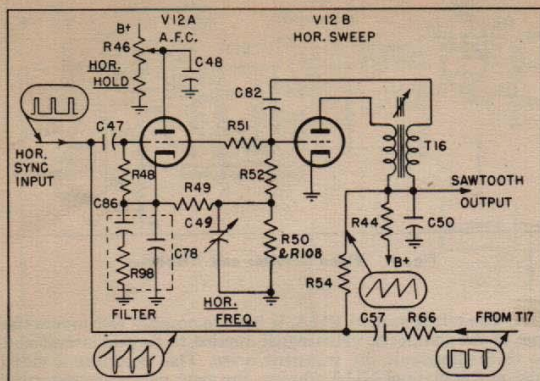
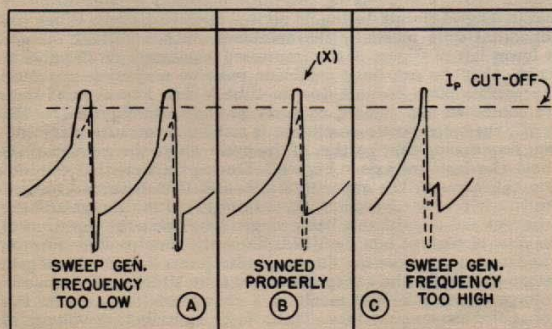

Fig. 6. Horizontal Sweep and A.F.C. Sync
Fig. 7. A.F.C. Waveshapes
5. HORIZONTAL SWEEP GENERATOR AND AFC SYNC (SEE FIGURE 6).
The tube V12A obtains its operating bias through its connection to the grid circuit of the blocking oscillator tube, V12B, through resistor R51. The blocking oscillator produces a large negative bias in its grid circuit during its normal operating cycle. When the horizontal sync pulses or the combined output voltage (shown at lower left of Figure 6) are impressed separately on the grid of V12A, they do not have sufficient positive amplitude to cause appreciable plate current flow in tube V12A. However, if they are combined and phased properly as shown in Figure 7A, 7B, or 7C, their composite amplitude is sufficient to cause plate current flow during that portion of the cycle where the waveshape is above the dash line axis in Figure 7. During the time that conduction takes place, the capacitors C86 and C78 become charged positive in respect to ground, the magnitude of the charge and the resultant voltage thereon being dependent upon the duration of the flow of current in tube V12A. Since the resistor R50 is in the bleeder circuit across the filter and also forms a part of the grid return circuit for the sweep generator tube V12B, any change in voltage across R50 will result in a change of frequency in the horizontal sweep generator. Thus, if the contributing voltage of R50 makes the grid of V12B less negative, the frequency will be raised; likewise, if the contributing voltages make the grid of
Referring to Figure 7, the B curve shows a sync pulse phased so that about 50 per cent of the pulse width is riding on top of the integrated sawtooth, while the remainder of the pulse after point (X) falls down into the trough, making the conducting portion have a width which is average between curves represented by (A) and (C). If each successive sync pulse falls in the same phase relation as shown in curve (B), the Horizontal Hold Control which controls the amount of current flow through V12A is set so that this phase relation does not change. This would cause the sweep generator V12B to run at the same frequency as that of the transmitted signal. Under this condition, if the sweep generator tends to run slower than the incoming sync signal, the conduction period will be made longer through tube V12A because the pulse will move forward in relation to the integrated sawtooth wave with a result as shown in Figure 7(A). It will be noted that the conduction pulse is of greater duration (wider) than in curve (B). Therefore, tube V12A will conduct for a greater period of time, thus raising the positive potential across R50. This greater conduction period causes the sweep generator to speed up until it attains the condition in B. Likewise, if the sweep generator is operating at too high a frequency, the pulse will advance along the integrated sawtooth wave until a large portion of it falls down into the trough of the waveshape, as shown in Figure 7(C), with the resultant shortening (narrowing) of the conducting pulse. This causes the frequency of the sweep generator to be reduced until the condition in Figure 7(B) is again restored.